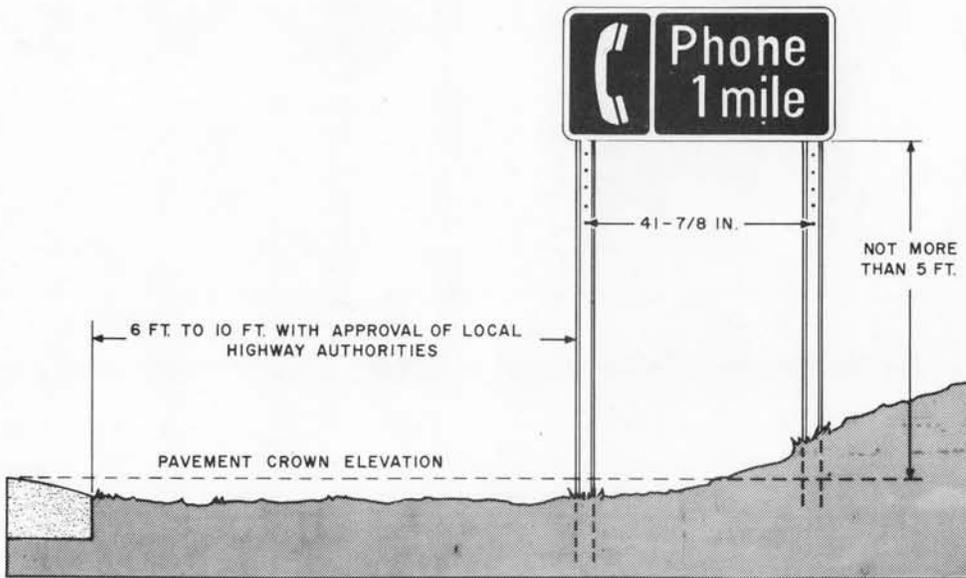

Fig. 30—KS-20065, List 1 Installation
3.12 Install KS-20065 signs in accordance with Fig. 30.